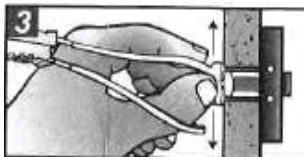

Figure 3.3
3.3 Place thumb between strap. Push thumb side to side, snapping off straps level with flange cap as shown in **Figure 3.3**.